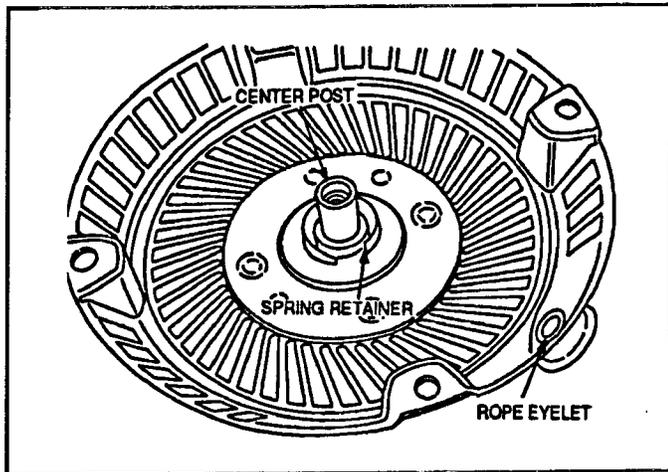

Figure 28
2. Place the reel assembly on the center post of the rewind starter and turn the reel counterclockwise until the hook on the reel spring engages the spring retainer on the center post of the starter. See Figure 28.